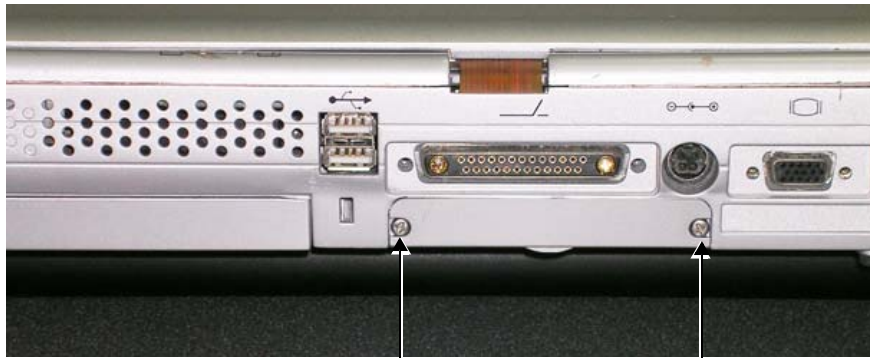

Figure 8-3 Removing the Screws from the Rear Panel
- 2) Working from the rear of the scanner (rear panel), use a small Phillips screwdriver to loosen and remove the two screws that secure the Hard Disk in the hard disk module holder, as shown in Figure 8-3 below.
- 2) Return and fasten the two screws (previously removed) to secure the Hard Disk in position - refer to Figure 8-3 on page 8-4 .